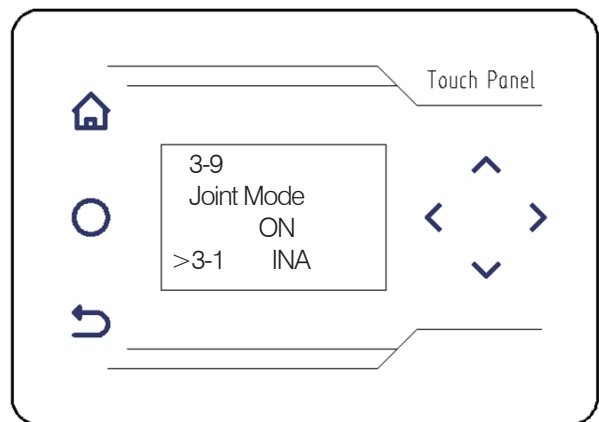

figure 42
Step 3-9 Joint detection (figure 42)